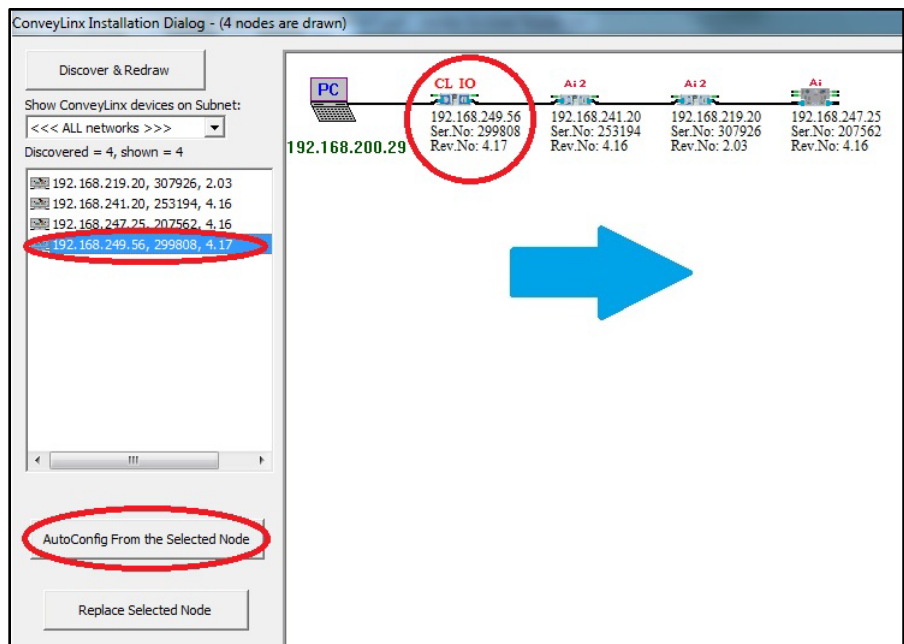

FIGURE 20 – TOPOLOGY VIEW AND INITIATING AUTO-CONFIGURE FROM THE SELECTED NODE
3. When the topology is drawn, select the *ConveyLinx* module from which you want to configure the line and click "Auto-Configure from selected node" as shown in Figure 20.